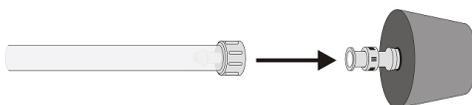

Figure 1
3. Prior to the start of class, connect the piece of thick-wall plastic tubing and rubber stopper assembly to the end valve of the Gas Pressure Sensor with a gentle half turn. Connect the other end of the plastic tubing to a single-hole rubber stopper using one of the tapered, ribbed valves included with a Gas Pressure Sensor (see Figure 1). If the single-hole rubber stopper that came with the valve is the wrong size for your bottle, the tapered valve can be pulled out of the stopper and pushed into a stopper that fits the bottle. If you need additional valves, you can obtain them by purchasing the Pressure Sensor Accessories Kit from Vernier Software & Technology (order code: PS-ACC).